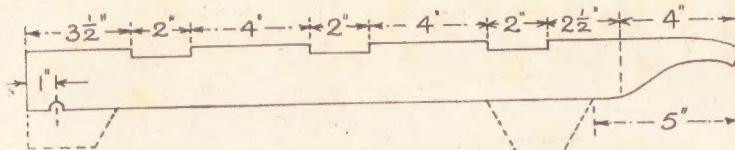

Fig. 1—Side view of handle with dimensions and shaping
In commencing to make the truck the two main handles will first be prepared. They are each 2ft. long and cut from 2in. wide stuff $\frac{1}{2}$ in. or $\frac{3}{4}$ in. thick. Square off the ends of the two pieces, and then, taking up one of them, proceed to mark off the positions of the recesses, as shown in Fig. 1. Cut down on the lines with a tenon saw to $\frac{1}{2}$ in. deep and clean out the wood with a chisel. Or, perhaps, the fretsaw frame fitted with a coarse saw would do the latter job more cleanly.
the ground. At (B) in Fig. 3 the size and shape of one foot is given, and, having cut one to shape, the second one can be accurately outlined by drawing round it. The proper position of the foot is given in the dotted lines in Fig. 1. Glue the feet on and drive in nails or screws